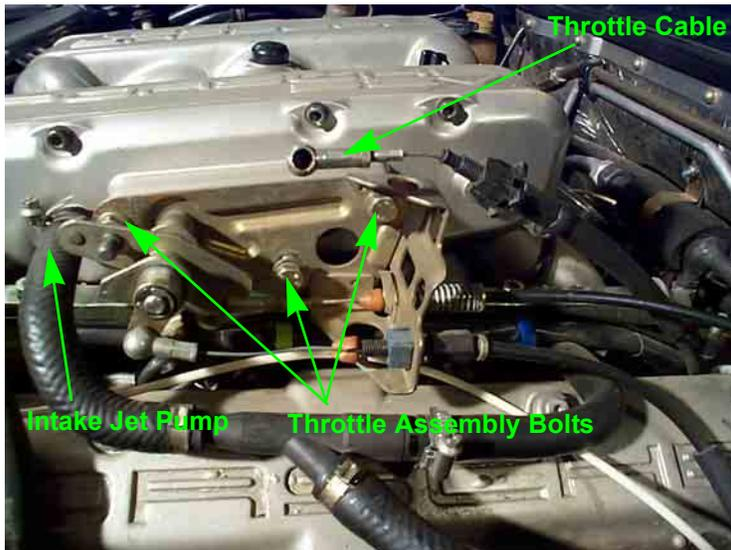

FIGURE 3
- e. Disconnect the thick vacuum line from the driver's side of the air intake. This line is called the "Intake Jet Pump." *See Figure 3.*
- g. Once the throttle plate cable is withdrawn from the cable bracket, access to the bracket's bolts is simplified. Unbolt the throttle cable assembly on the driver's side of the air intake. See *Figure 3*. Once you have the assembly disconnected from the intake replace or bag the bolts. Leave the throttle plate cable disconnected from the assembly.